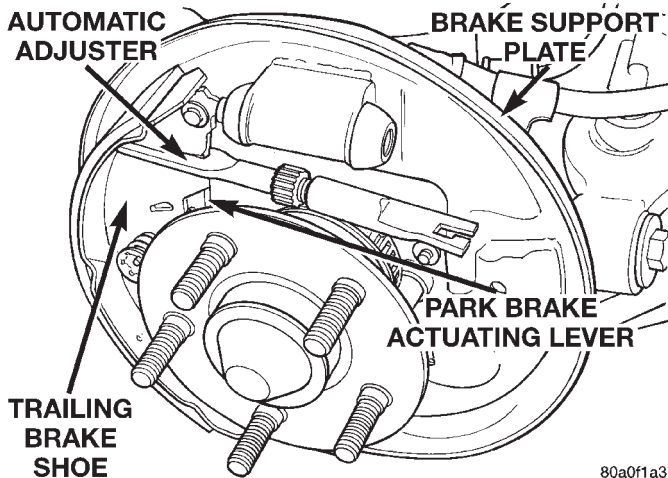

**Fig. 64 Automatic Adjuster**
(8) Remove the leading brake shoe from the brake support plate.
(9) Remove the automatic adjuster (Fig. 64) from the trailing brake shoe and park brake actuating lever.
(6) Install the automatic adjuster on the trailing brake shoe and park brake actuating lever (Fig. 64).